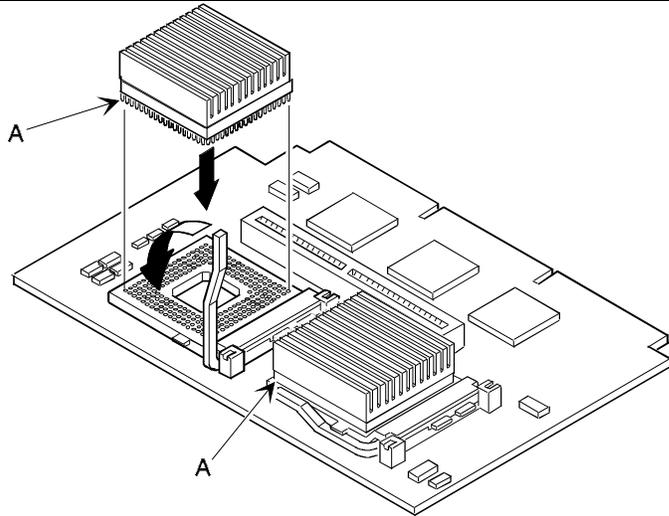

Figure 3 - 19 Installing a New CPU
- 5) Make sure pin 1 on the CPU is aligned with pin 1 on the ZIF socket (A, Figure 3 - 19). Pin 1 is located at the notched corner of the CPU (the notched corner can be seen by looking at the CPU from the pin side).